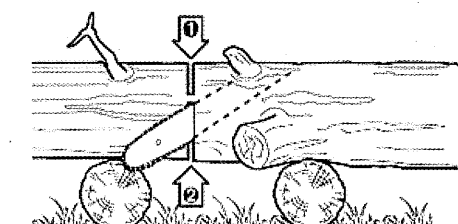

Fig. 39
3. When the log is supported on both ends (Fig. 39), cut 1/3 the diameter from the top (overbuck). Then make the finished cut by underbucking the lower 2/3 to meet the first cut.